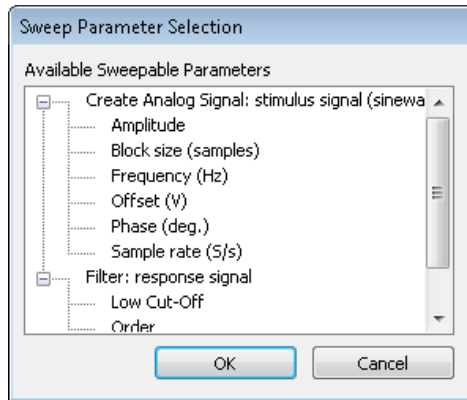

Figure 5-1. Sweep Parameter Selection Dialog Box
5. On the **Step Setup** tab, click the **Add** button to display the list of sweepable parameters from each step in the project, as shown in Figure 5-1.